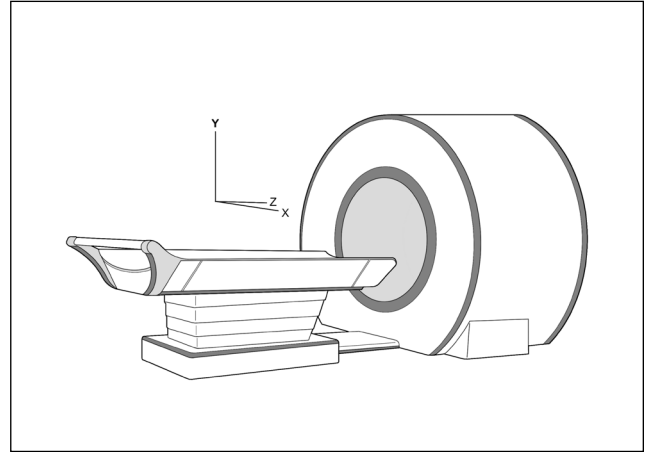

Fig. 77
1. Verify the cradle can travel the full length of the “Z” axis without issue. Repeat for both mechanical and manual movement (Fig. 77).
3. Verify the cradle can travel the full height of the ‘Y’ axis without issue (Fig. 77).